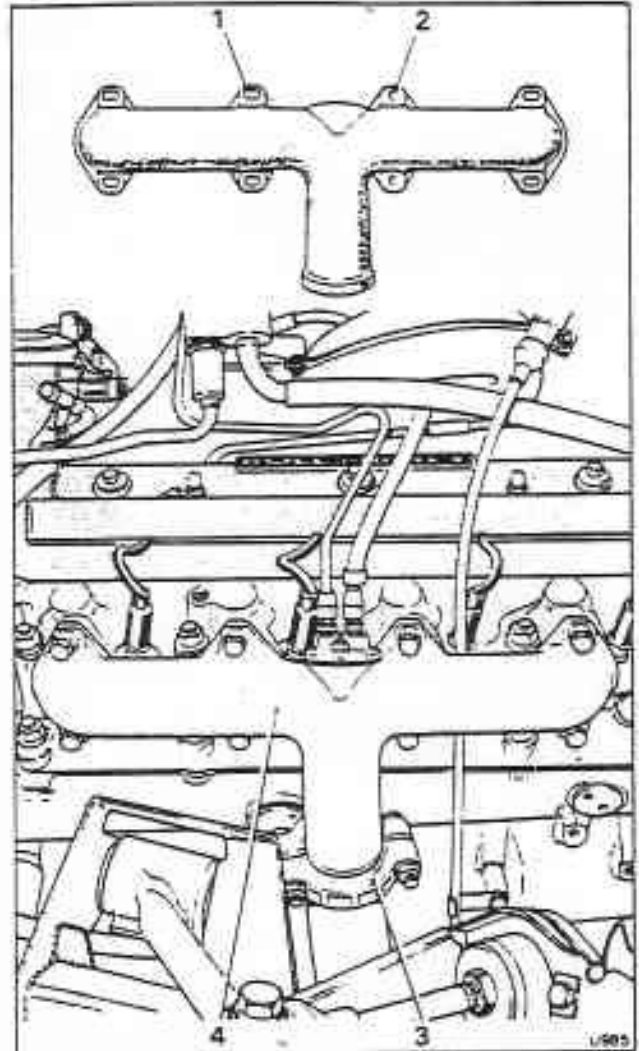

Fig. Q2-1 'B' bank exhaust manifold
4. Detach the two choke stove pipes from the unions located on 'B' bank manifold (see fig. Q2-1). On cars fitted with a fuel injection system, detach the exhaust gas recirculation (E.G.R.) feed pipe from the manifold.